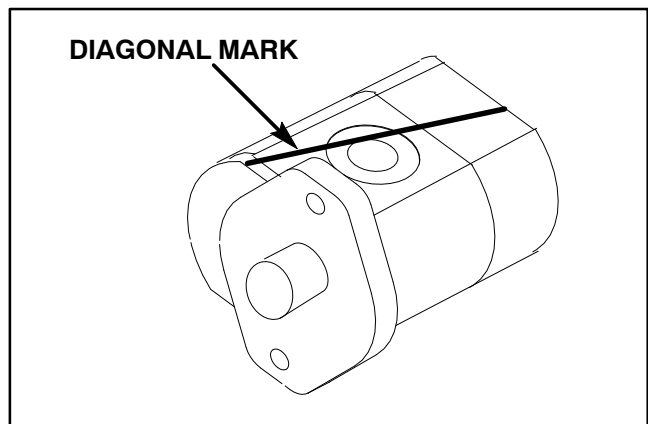

Figure 53
2. Use a marker or scribe to make a **diagonal** mark across the front flange, body and rear cover for reassembly purposes (Fig. 53).